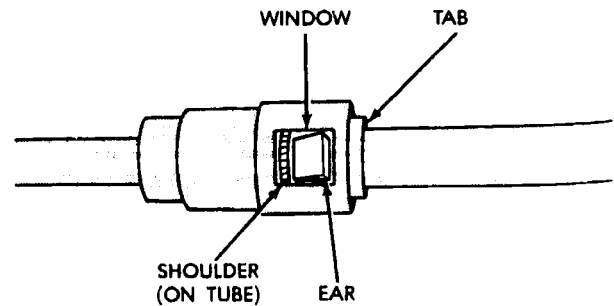

Figure 39
- d. The plastic quick-connect has windows in the side of the casing. When the fitting completely attaches to the fuel tube, the retaining locking ears and the fuel tube shoulder are visible in the windows. If they are not visible, the retainer was not properly installed (Figure 39). **Do not rely upon the audible click to confirm a secure connection. Pull back on the quick-connect to ensure a secure connection.**